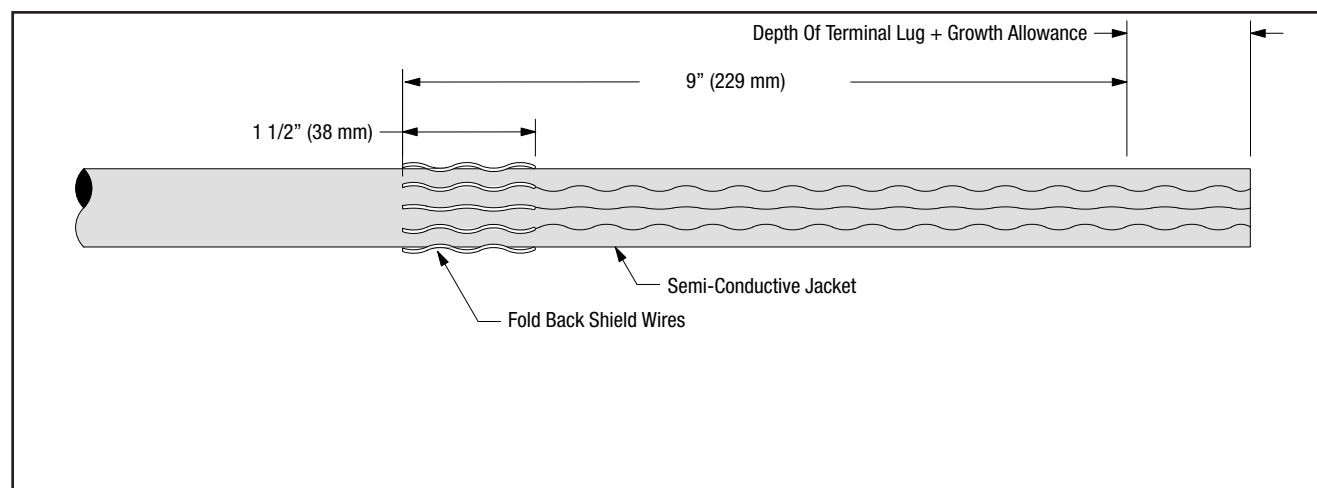

Figure 19
12.6 Remove constant force spring. Bend shield wires back upon cable jacket 1 1/2" (38 mm). Cut excess shield wire and discard (*Figure 19*).